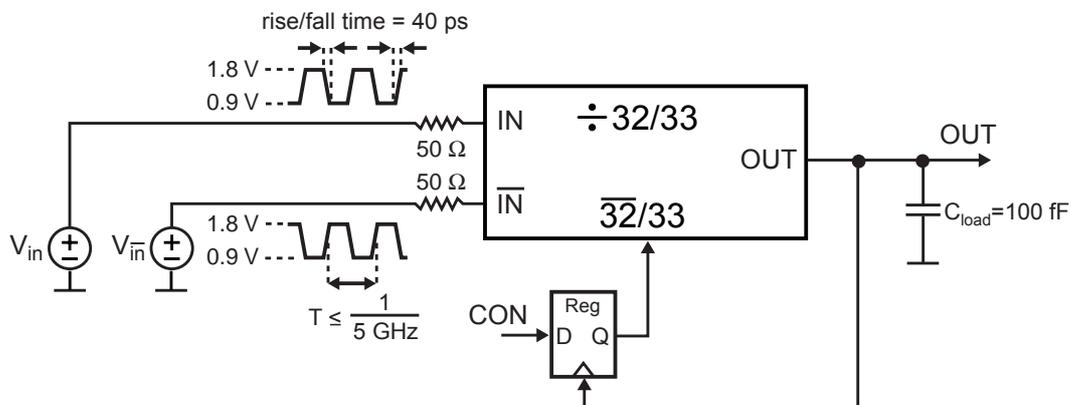

Figure 1: High Speed Divide-by-32/33 Circuit.
This project will introduce you to the art of designing high speed frequency dividers. Your goal will be to design a divide-by-32/33 prescaler, as shown in Figure 1, that supports a minimum input frequency of 5 GHz with maximum power dissipation of 10 mW. Calculation of power dissipation must include all blocks in Figure 1 (including bias sources) except for input voltage sources V_{in} and V_{in} . You should strive to exceed one of these specifications such that
- The output to the divider must drive a load capacitance of 100 fF and a register that clocks in the CON signal (on either its rising or falling edge — your choice) as shown in Figure 1.